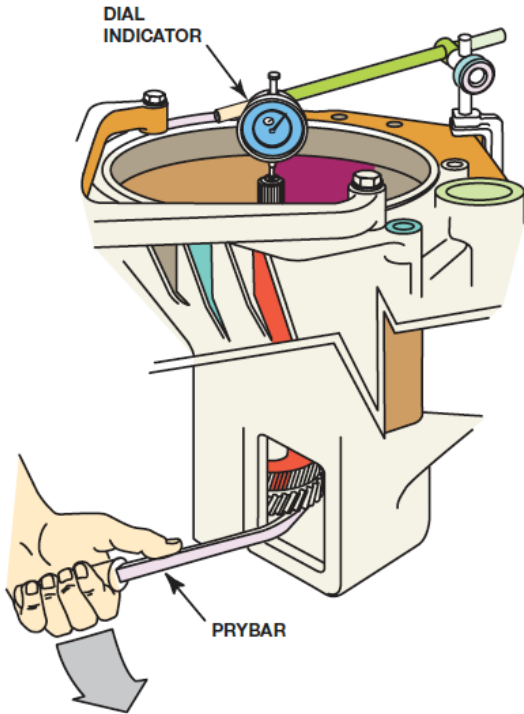

Figure 22. Measuring input shaft free play.
- Move the shaft up and down through its free travel several times while reading the end play or clearance on the dial indicator. Figure 22.